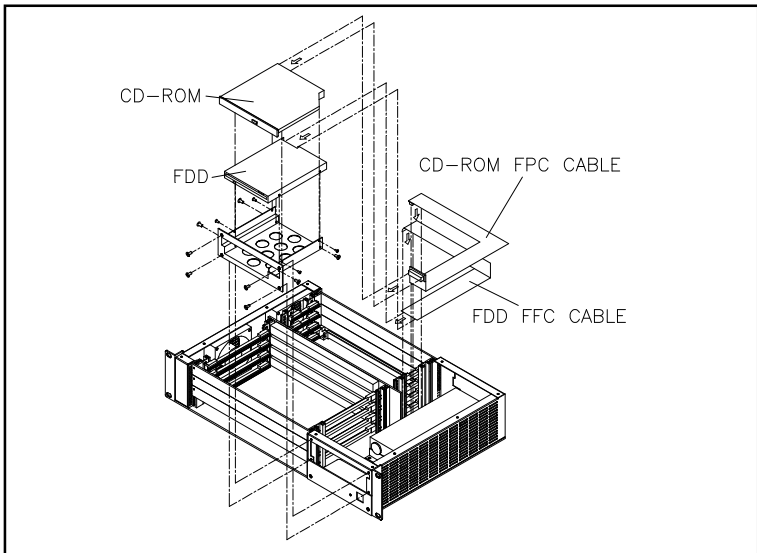

Figure 2-5: Installing a slim-type floppy disk drive
2. Fasten the mounting brackets with the floppy disk drive and CD-ROM drive on the MIC-3036. (Please refer to Figure 2-5)